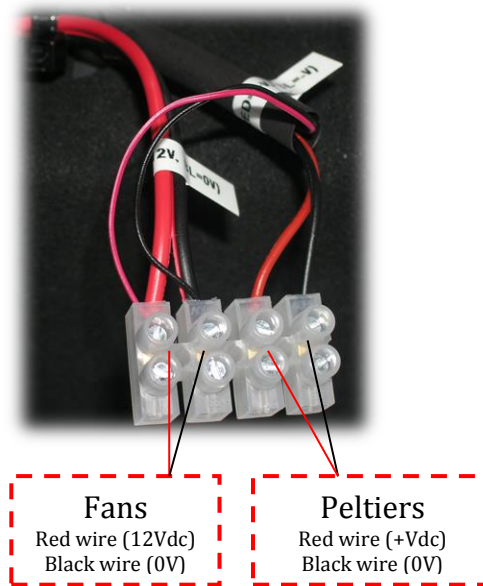

Figure 15 – Terminal block connections (Fans and Peltiers)
- 1) **Manually** – Connect the terminal block (see Figure 15) to an external power supply, adjustable up to 30 V and able to deliver 4 A. Then manually adjust the voltage aiming at a desired temperature (e.g. 19 °C). FEB/S sensor temperature can be used for this purpose.
- FAN must be ON when PELTIER elements are ON. The heat produced by the peltier elements, if not extracted, will dominate over the cold side and eventually damage the cooling box. Connect a 12Vdc/0.4 A to the terminal block, as indicated by Figure 15.*